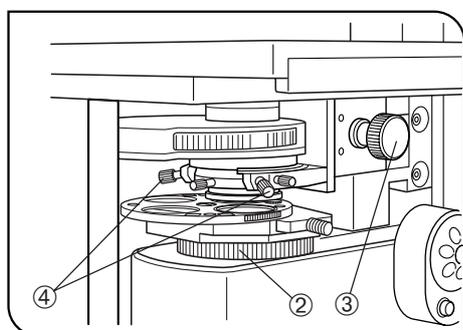

Fig. 24
(Figs. 24 to 26)
2. Set the field iris diaphragm ring ② to the open position (⊗ → ○). (Fig. 24)
4. Close the field iris diaphragm ring ② so that the diaphragm image comes inside the field of view.
5. Manipulate the condenser height adjustment knob ③ to focus on the diaphragm image.
6. Turn the two condenser centering knobs ④ on the condenser holder to move the iris diaphragm image to the center of the field of view. (Fig. 24, Fig. A → Fig. B).